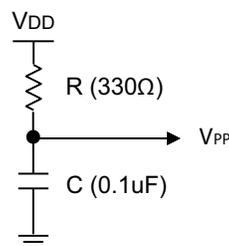

Figure 137. RC Delay Circuit
The TEST pin on the socket board for the MTP Writer must be connected to VDD (5.0V) with RC delay as shown in Figure 137 (only when SPW 2+ and GW-pro2 are used). The TEST pin on this socket board must not be connected to VPP (12.5V), which is generated from the MTP Writer. Therefore, the specific socket board for the S3F8S45 MCU must be used when writing or erasing using the MTP Writer.
► **Note:** If the writer tool you are using is the SPW 2+ or the GW-pro2, refer to Figure 137 on page 360.